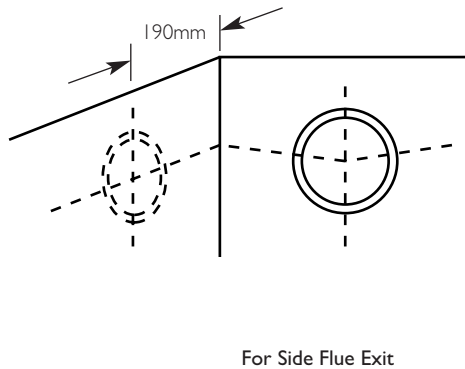

Fig. 16
3. Mark the position of the centre of the flue hole (rear exit). For side flue exit, mark as shown (Fig. 16).